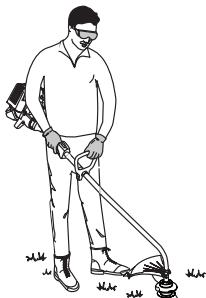

Fig. 15
3. Hold the unit in the operating position (Fig. 15). If necessary, reposition the D-handle to the location that provides the best grip.
Before operating the unit, stand in the operating position (Fig. 15). Check for the following: